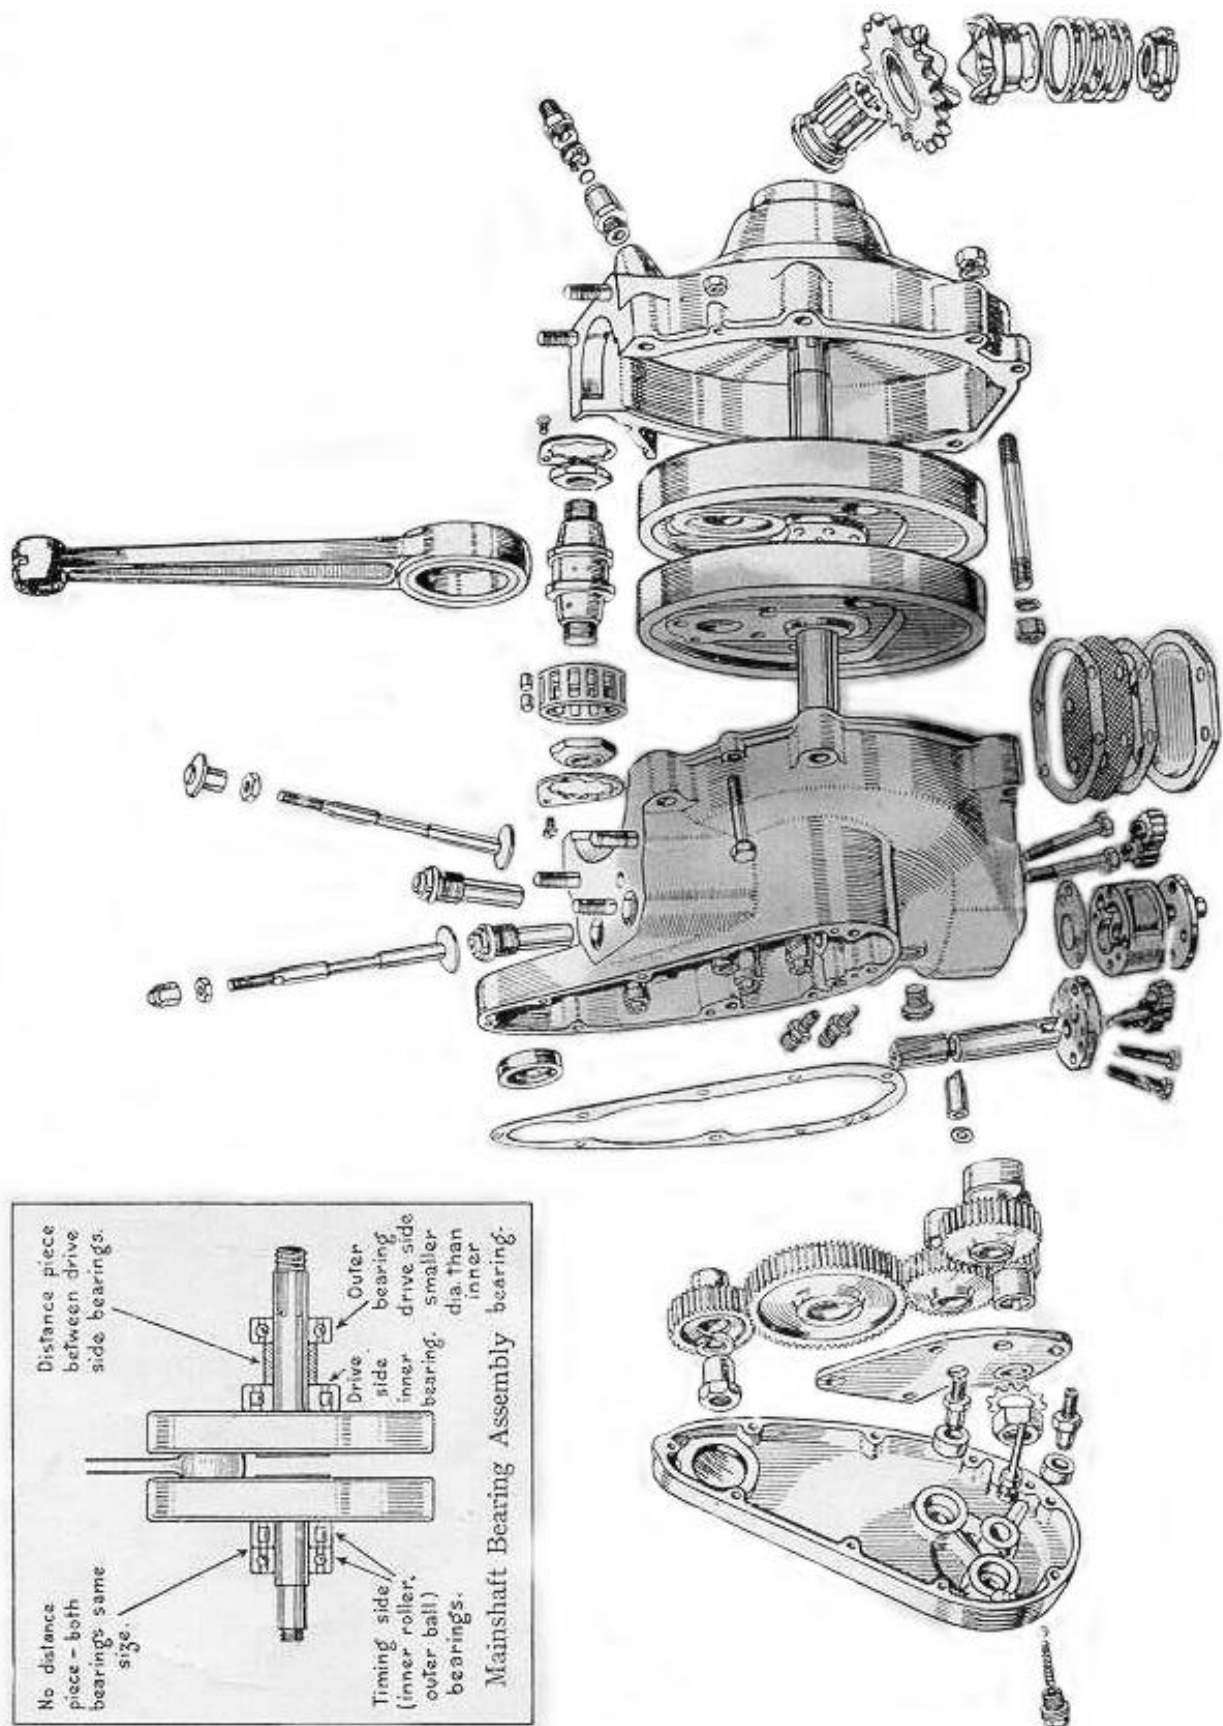

Fig.4. Crankcase half of engine (exploded view)
**THROTTLE STOP.** The position of the throttle valve is set by means of the throttle stop screw (See Fig 4), the throttle control being closed during this adjustment. Alternatively, if the screw is adjusted clear of the throttle valve, the engine will be shut off in the normal way by the control.